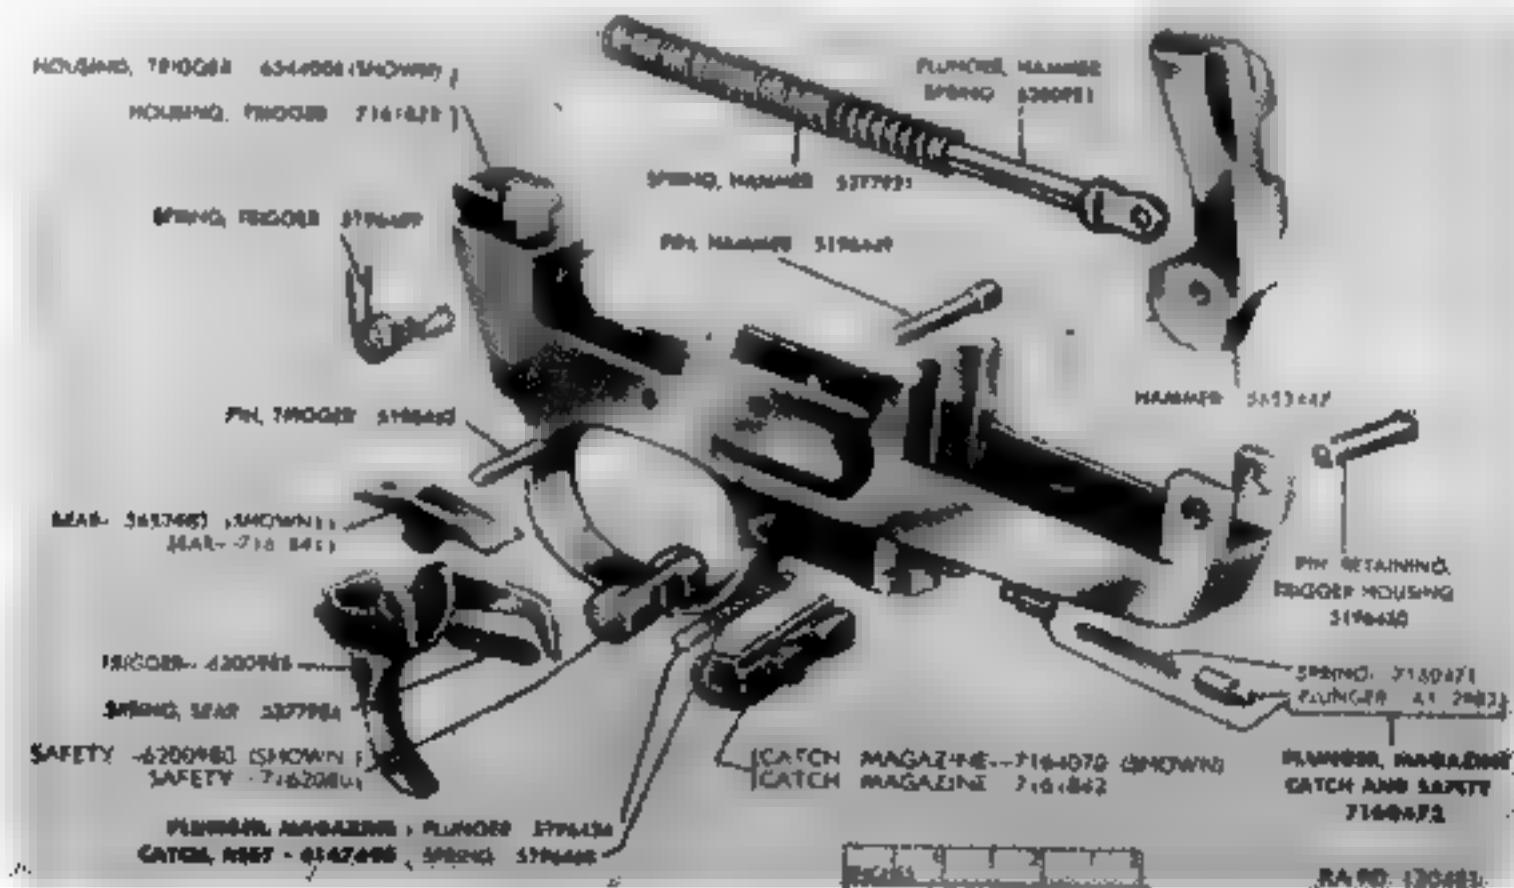
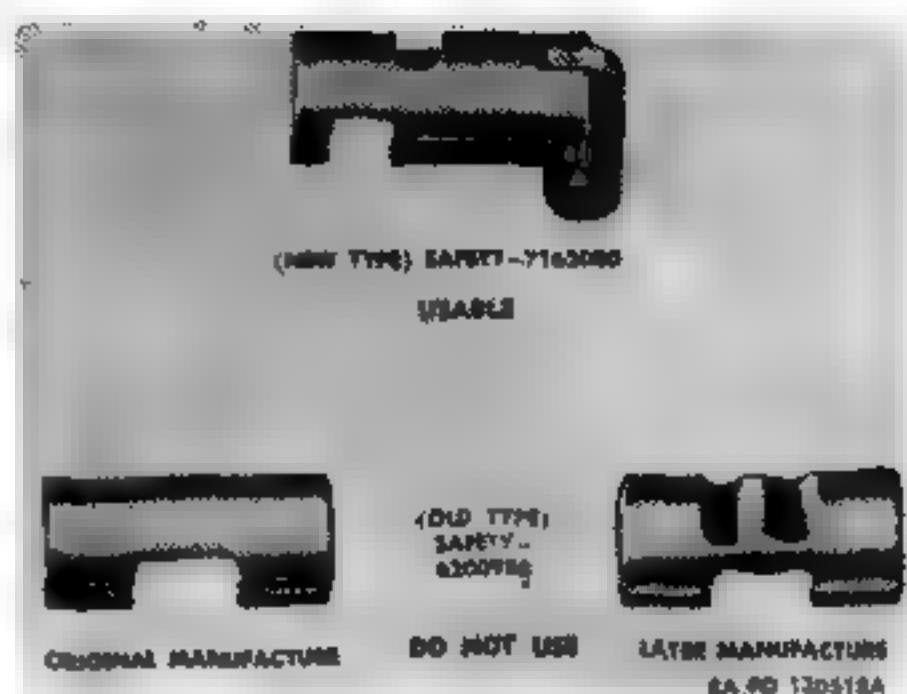

Figure 45. Trigger housing assembly for carbines M1 and M1A1 — exploded view.
Figure 53. Safeties.
b. *Trigger Housing* (Figs. 45 and 47). Inspect housing for deformation, worn (elongated) or burred pinholes, worn or burred retaining lugs, bent trigger guard bow, foreign matter in recesses, burred magazine catch guideway, and rust. Some of the fabricated (brazed) type of housings were cyanide hardened during manufacture and some were not. The pinholes of the earlier ones, which were not hardened, are more subject to wear. Inspect the trigger housing group for looseness, and operation. The group should assemble easily to the receiver without apparent looseness or side play. Forward or rearward movement due to clearance at retaining pin should not exceed approximately 0.006 inch by hand test.
c. *Trigger Housing Retaining Pin* (Fig. 45) Old type of trigger housing retaining pin (with springs) must be discarded and replaced with new type of retaining pin (Fig. 48). (New type pins have no spring.) Inspect retaining pin for wear, burns, and rust.
d. Hammer (Fig. 45)
- (1) *Depot maintenance.* Inspect the hammer on a comparator where facilities are available. This applies to hammers removed from used carbines; in general, new hammers removed from stores do not require comparator inspection.
- e. Hammer Spring and Plunger (Fig. 45).* Inspect hammer spring plunger for deformation, wear, burrs, and rust. Inspect fit of head of plunger in slot in rear face of hammer. Head should seat evenly and positively in slot. Inspect hammer spring for functioning, deformation, and set.
f. Trigger (Figs. 45 and 51)
- (1) Inspect the trigger on a comparator (depot maintenance) where facilities are available. This applies to triggers removed from used carbines; in general, new triggers removed from stores do not require comparator inspection.
- (2) Where comparators are not available, inspect trigger for movement on trigger pin and pin for seating in trigger housing. Trigger should rotate freely on pin but have no shake. Pin should fit snugly in housing with a push fit. Inspect clearance of trigger tip with guard, and rear of trigger with housing when fully retracted
- (3) Inspect top of pedestal where sear seats when hammer is cocked, for levelness, wear, and burrs, and check to assure that the top forward corner of the pedestal is not rounded or broken. This corner should be reasonably sharp. Triggers that are rejected for high pedestal (as determined by comparator test — DEPOT MAINTENANCE ONLY) will be retained in the shop until a sizable quantity has accumulated, then disposition instructions should be requested from Chief of Ordnance, Washington 25, D.C., ATTENTION: ORDFM. Check trigger spring notch for
(4) Test functioning of trigger to determine that trigger returns smoothly to its forward position with no tendency to stick or hang.
g. Trigger Spring (Fig. 45). Check trigger spring for deformation and rust. Check seating of spring in seating notch in trigger and positive retention spring in housing aperture. Bow end of spring should seat level in bottom of seating notch in trigger, and rear coiled section should be held firmly in housing aperture by the force of spring tension. Tips of spring should be slightly spread. Trigger spring should return trigger to forward position under adequate tension (FIELD MAINTENANCE).
h. Sear (Fig. 45).
(1) Although sear 7161841 can be used in carbines M1 and M1A1, the available stock should be conserved for carbines M2 and M3.
(2) Inspect the sear on a comparator (DEPOT MAINTENANCE ONLY) as facilities are available. This applies to sears removed from used carbines; in general, new sears removed from stores do not require comparator inspection.
4. *Sear Spring* (Fig. 45). Check sear spring for positive seating in trigger and sear, and for functioning, rust, and set. Visually inspect during repair. Replace during rebuild.
j. Safety (Figs. 45 and 53). Check to assure that only the rotary type safety 7162080 is used. Modification Work Order ORD B28-W-6 prescribes the replacement of the old type safety with the new type (Fig. 53). Test safety for positive positioning. Check for burrs and rust and check spring plunger recess and trigger slot for burrs and foreign matter. Refer to paragraph I (1) and (2) below for inspection of plunger assembly for magazine catch and safety.
b. Magazine Catch (Figs. 45 and 54).
1. Plunger Assembly for Magazine Catch and Safety (Figs. 45 and 55).